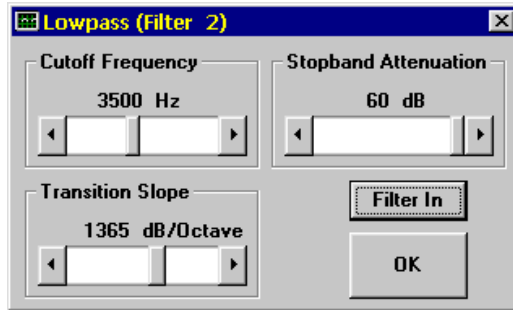

Figure 3-10 Tutorial Lowpass Filter Control Window
26. Click on the **Control** button in the Filter 2 block. The window in Figure 3-10 will appear:
27. Use the mouse to set all controls to match the settings shown in Figure 3-10. Do not click on the **OK** button at this time.